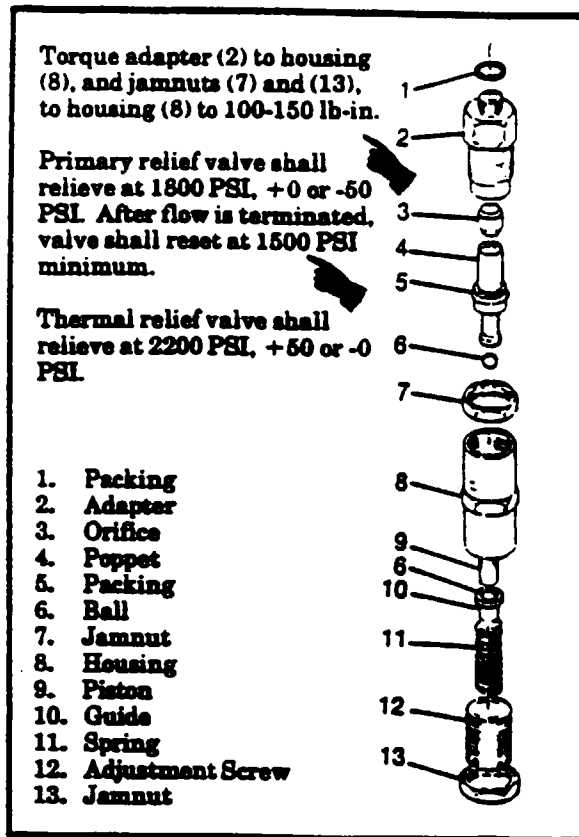

Figure 5-4. Relief Valve Assembly
The primary relief valve (14), located between the self-relieving check valve (20) and hydraulic pump (15), serves to limit that amount of pressure which can be generated by the hydraulic pump. The thermal relief valve (8), located on the system side of the self-relieving check valve (20), serves to limit the system pressure. System pressure may increase due to thermal expansion. Both valves are identical except for differing pressure relief settings. Refer to figure 5-4.
## 5-12A BENCH CHECK OF PRIMARY AND THERMAL RELIEF VALVES. (Refer to figure 5-4).